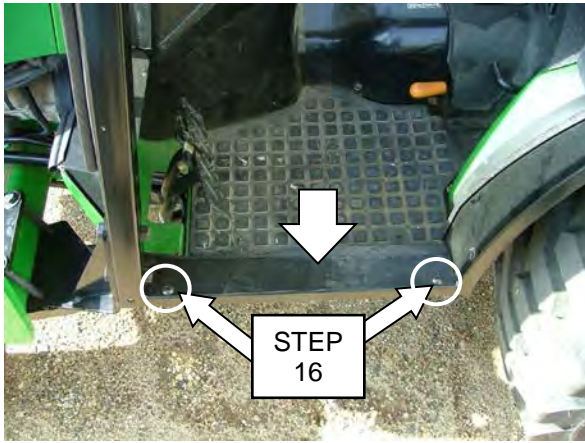

FIGURE 8
16. Secure deck mount plate (4) LH / (5) RH, to top of cab deck tube using **(Figure 8)**;